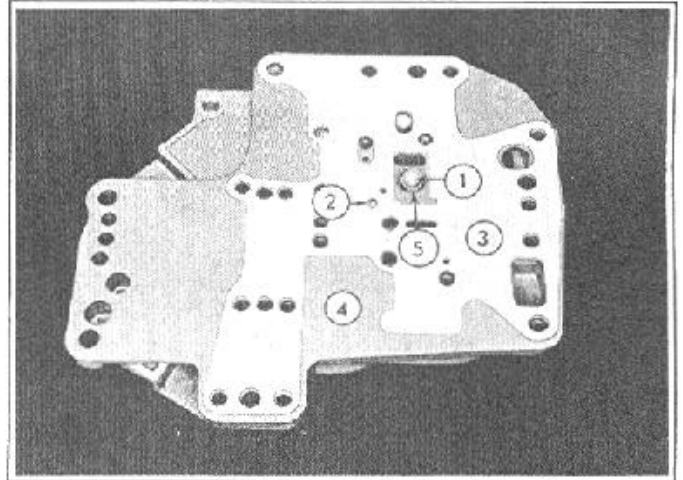

FIGURE 64
5. Carefully lift off the converter valve body from the valve block base plate (4), Figure 64, and remove the converter ball check (2) and rear pump ball check (1).
seat (5), Figure 64; these seats must be tight in the manifold and in the manifold base plate.
7. Place the converter control valve body gasket (3) in position on the base plate (4), Figure 64.
8. Install the converter ball check (2), Figure 64, and rear pump ball check (1) on their proper seats.